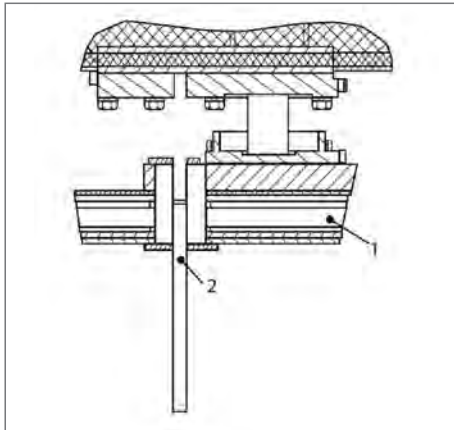

Figure 73
2. Slide the threaded rod (Fig. 73 | 2) into the drilled transportation safety hole below the frame of the tank (Fig. 73 | 1) until it reaches a position between the Palletank® and the tank frame.